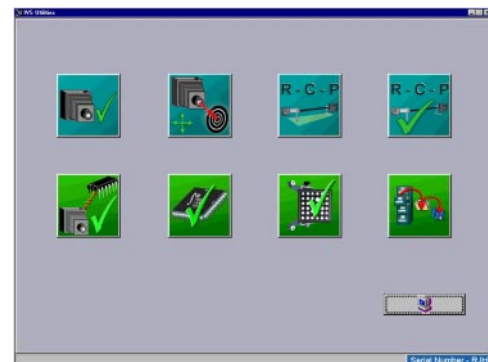

Figure 3-94
6. Single click on the RCP Check icon. (Figure 3-94)